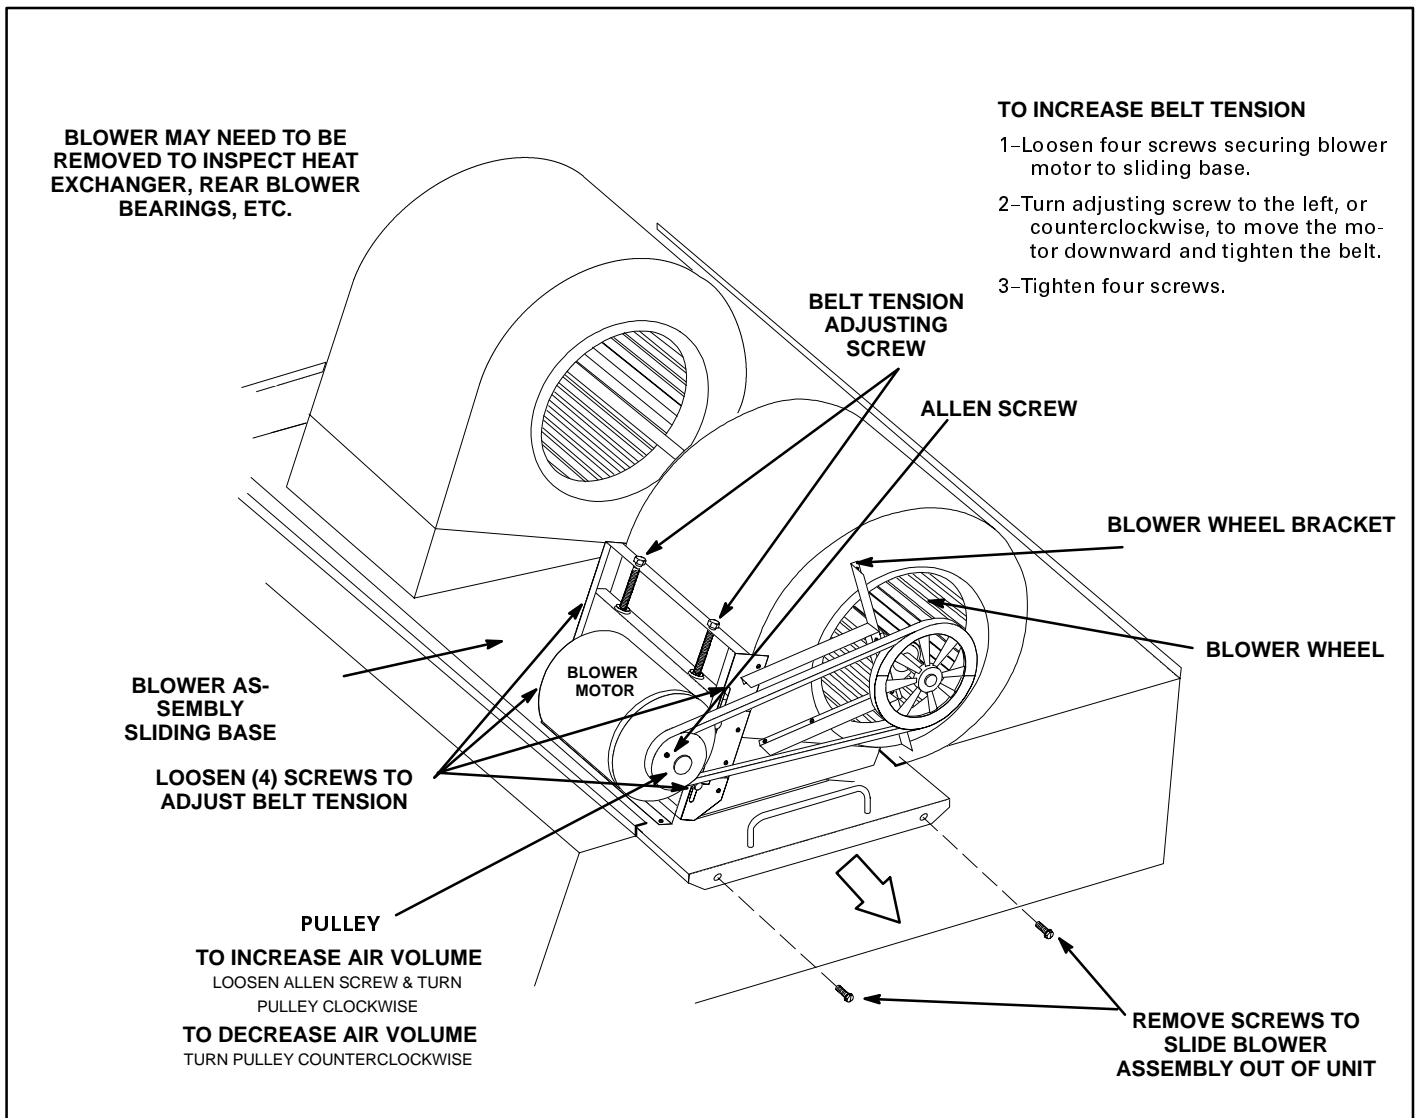

FIGURE 10
The blower compartment in all LGA/LCA units is located between the evaporator coil and the compressor / control section on the opposite side of the condenser coil. The blower assembly is accessed by disconnecting the blower motor jack plug J98/P98 (and all other plugs) and removing the screws on either side of the sliding base. The base pulls out as shown in figure 10.
- 5- The RPM can be adjusted at the motor pulley. Loosen Allen screw and turn adjustable pulley clockwise to increase RPM. Turn counterclockwise to decrease RPM. See figure 10.
- 1- Loosen four screws securing blower motor to sliding base. See figure 10.